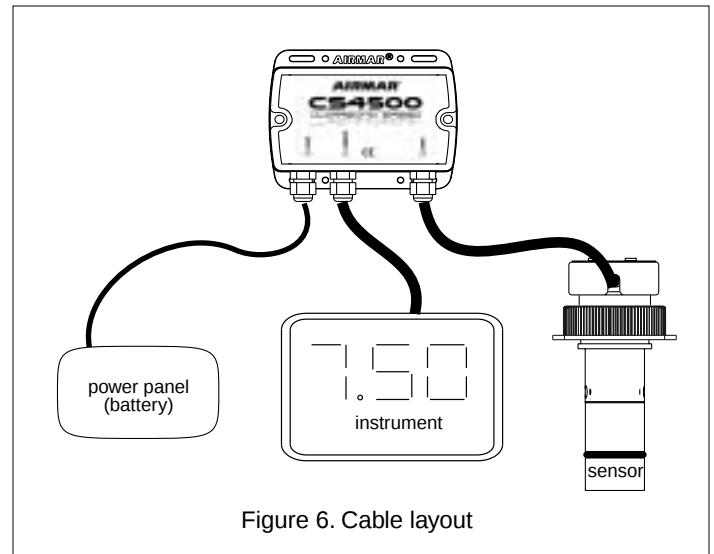

Figure 6. Cable layout
1. Select a convenient, dry, mounting location for the waterproof junction box, about 1–2m (3' – 5') from the instrument (see Figure 6).